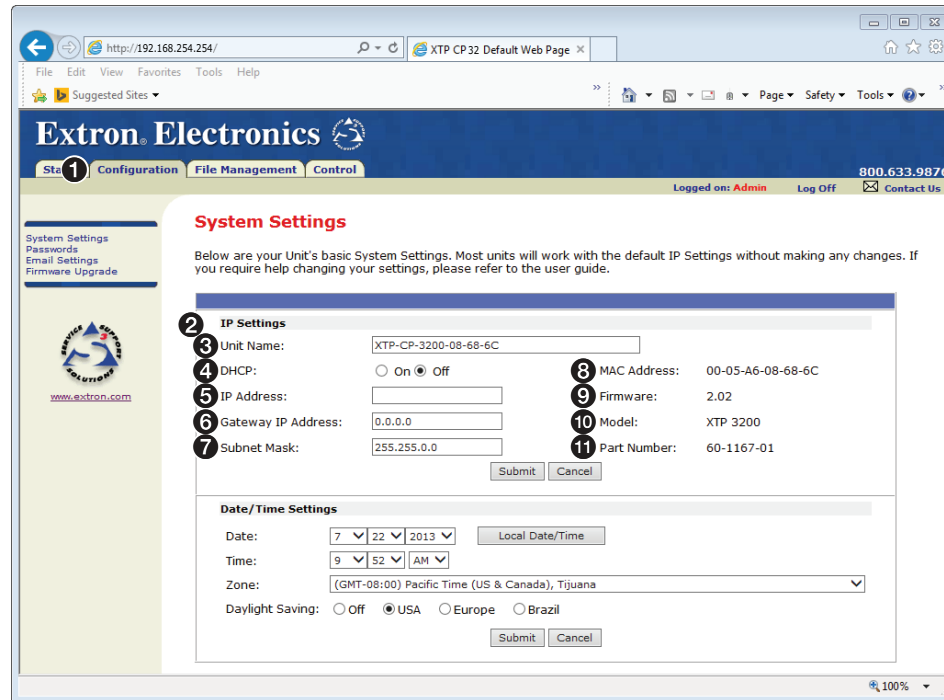

Figure 29. System Settings Page
The XTP II CrossPoint Series matrix switcher downloads the **System Settings** page (see figure 29) when you click the **Configuration** tab (1). The screen consists of fields in which you can view and edit IP administration and system settings. You can access the **Email Settings** and **Passwords** pages by clicking the appropriate link (see **Ethernet Link** on page 92 for basic information about IP addresses and subnetting).
The **Unit Name** field (see figure 29, 3) contains the name used as the “from” information when the matrix switcher e-mails notification of its failed or repaired status. This name field can be any valid name, up to 24 alphanumeric characters.
The **DHCP On** radio button (see figure 29 on the previous page, ④) directs the matrix switcher to ignore any entered IP addresses and to obtain its IP address from a Dynamic Host Configuration Protocol (DHCP) server (if the network is DHCP capable). The **DHCP Off** radio button turns DHCP off. Contact the local system administrator to determine if DHCP is appropriate.
1. Click the drop-down list for the desired value (see figure 30, ①). The adjustable variables are month, day, year, hours, minutes, AM/PM, and (time) zone. A drop-down list appears (the year list is selected in figure 29).
3. Click the desired value (②).